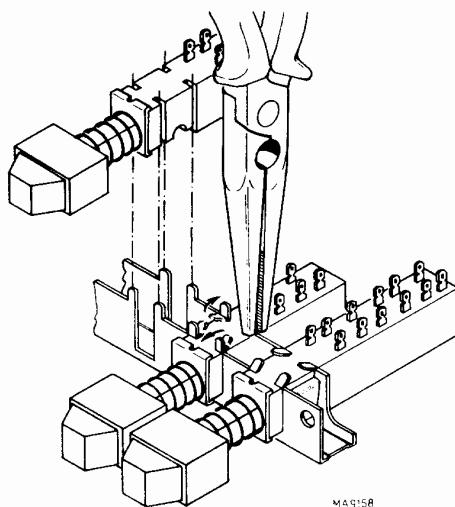

*Fig. 3.14. Push-button set clamping device*
Each of the push-button sets is fitted to the front panel by means of two clamping devices secured by hexagon screws, see Fig. 3.14.
**Note:** Before a push-button switch is refitted to the front panel, it is advisable to stick the two parts of the clamping device together by means of adhesive tape or non-hardening glue, in order to facilitate replacement, refer to Fig. 3.14.